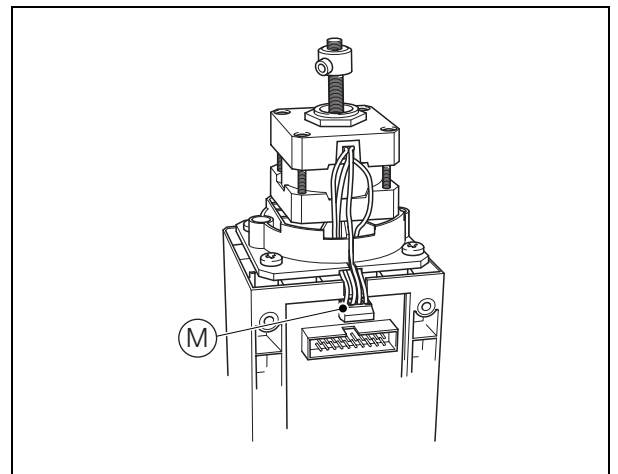
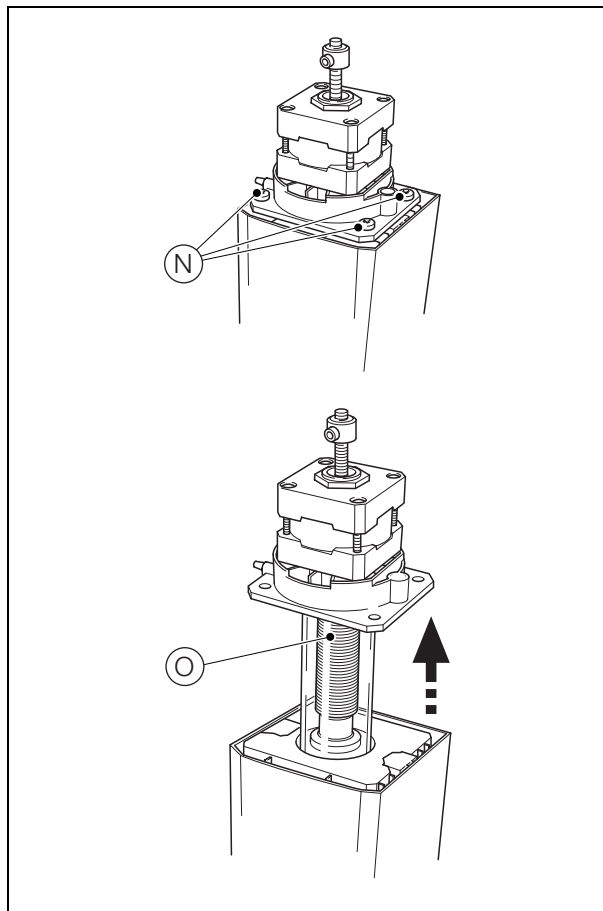

Fig. 12.13 Disconnecting the Motor
Fig. 12.14 Removing the Motor and Sample Tube
6. Referring to Fig. 12.13, disconnect the motor wiring plug (M).
7. Referring to Fig. 12.14, remove the four screws (N) and remove the motor and sample tube (O) from the lower half of the measuring cell.
9. Referring to Fig. 12.14, refit the motor and sample tube (O) to the lower half of the measurement cell, ensuring that the motor wiring plug is aligned with the socket (see (M) in Fig. 12.13). Secure the motor mounting plate to the lower half of the measurement cell with the four screws (N).
10. Referring to Fig. 12.13, reconnect the motor wiring plug (M).